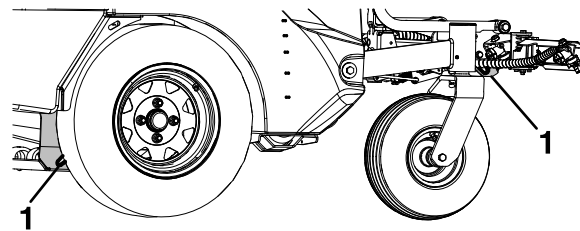

Figure 40
- Securely fasten the machine to the trailer or truck with straps, chains, cable, or ropes. When securing the front of the machine, only use the tie down locations shown in Figure 40. If possible, both front and rear straps should be directed down and outward from the machine. Using non-designated locations may cause damage to the machine and/or attachment.